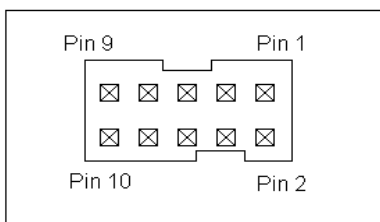

Figure 4. 10-pin IDC connector (Front View: Digi-Key part A33159-ND). Mates with Digi-Key part HKC10H-ND or similar.
- 10-pin IDC connector. *Must be 3.3 V NOT 5 V!* The input impedance is 100 Ω . The deblanking signal should be connected to pin 8 of the IDC connector (with pin 7 serving as the corresponding ground). See Figure 4 below for pinout information.